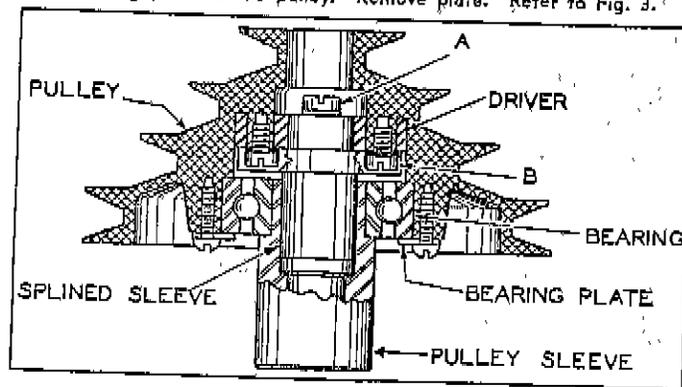

FIG. 3
- c. Loosen and remove the four round head screws which secure the bearing plate to the pulley. Remove plate. Refer to Fig. 3.